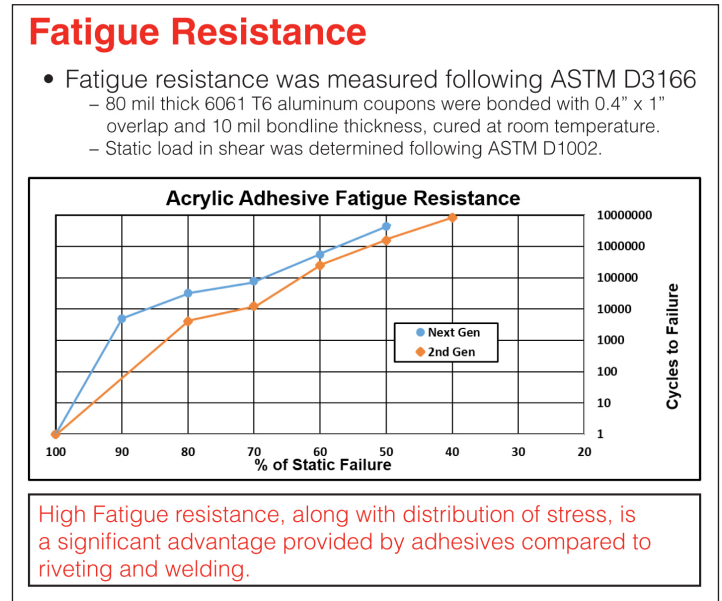

Figure 12: Fatigue Resistance vs. Bond Line Thickness
- Fatigue Resistance Test – In this test, the “Next-Generation” adhesive demonstrated improved fatigue resistance compared to previous generation technology. (See Figure 12.)